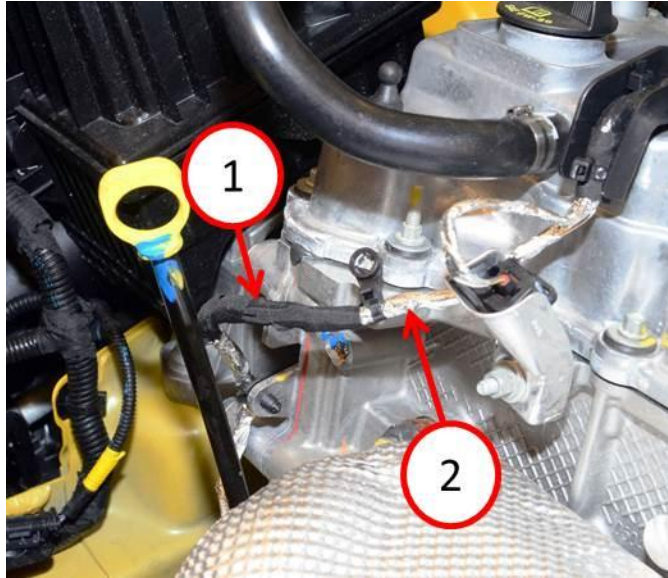

Fig. 6 Tesa Tape And Engine Harness
12. Using Tesa tape, wrap three wires to engine harness (Fig. 6).